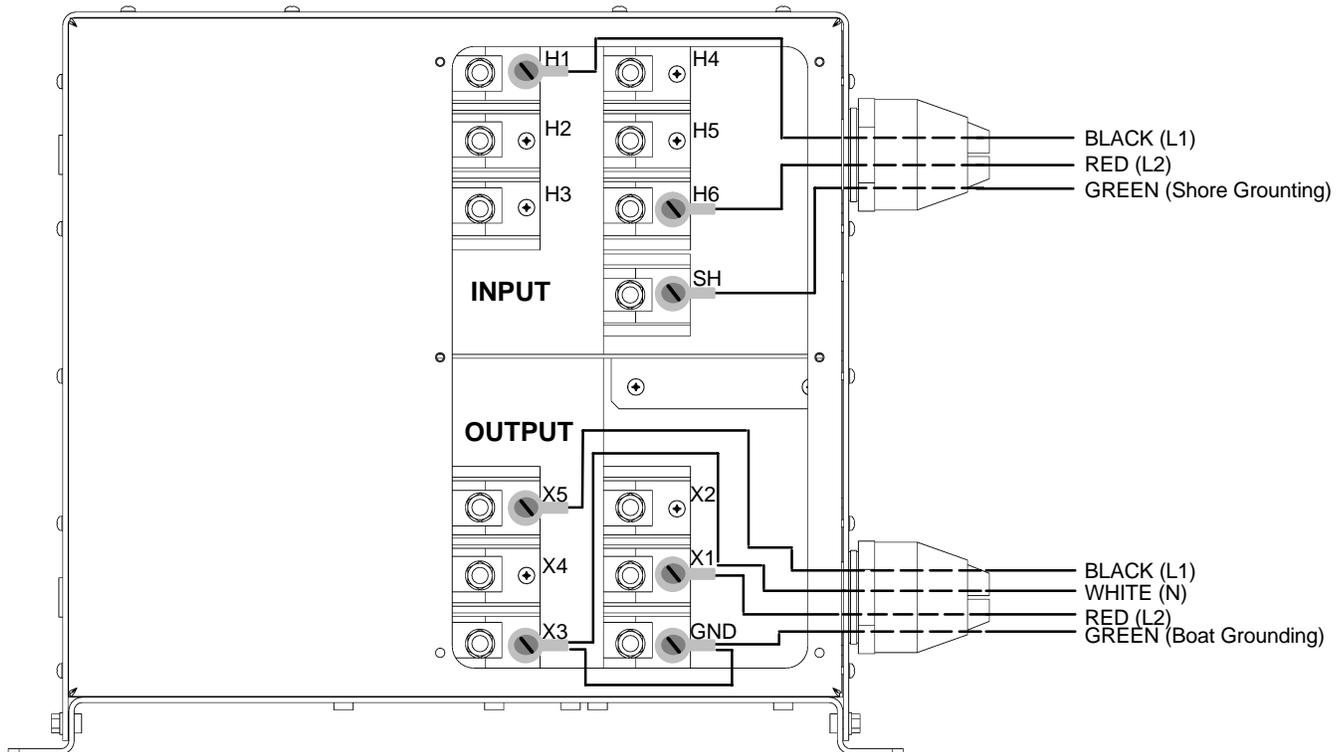
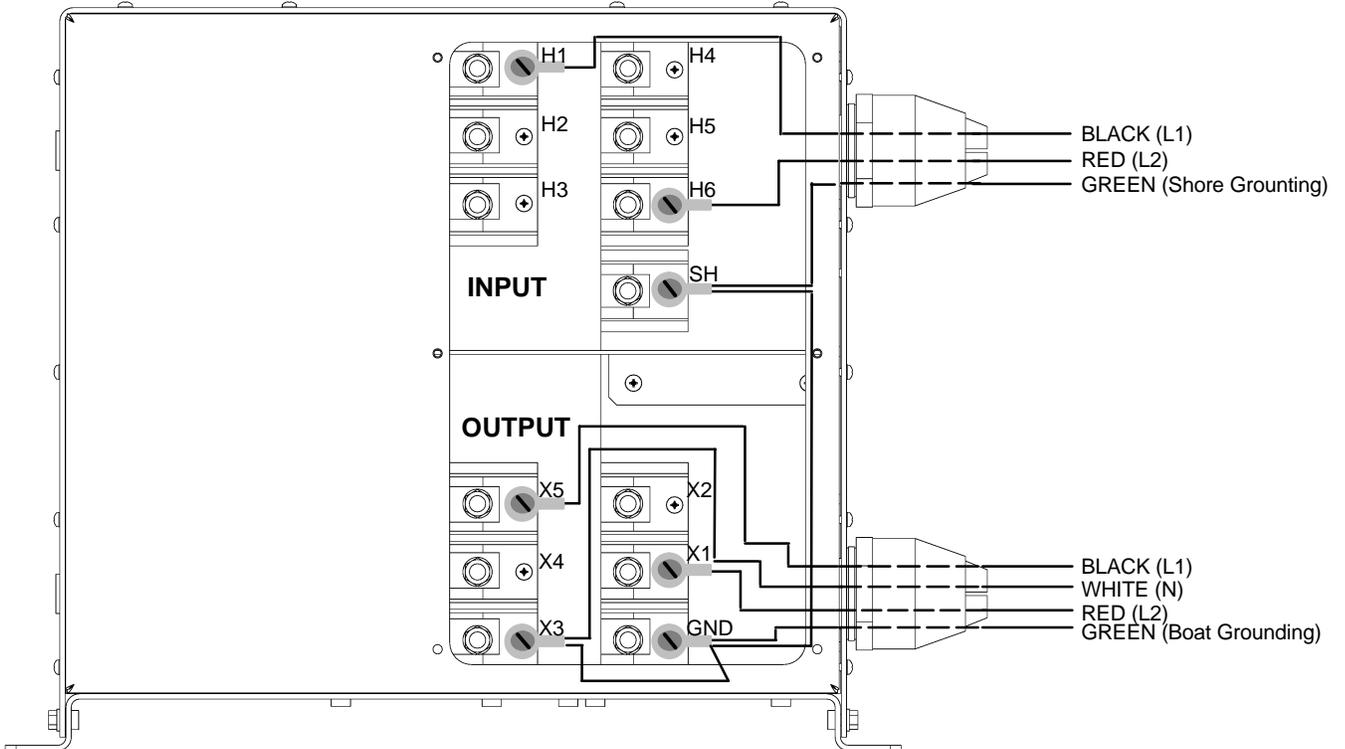

Figure 5. Typical Wiring as an Isolation Transformer (240 Volt Primary Input) – Method 1 (see Figure 1 for Electrical Diagram)
Figure 7. Typical Wiring as a Polarization Transformer (240 Volt Primary Input) – Method 3 (see Figure 3 for Electrical Diagram)
8.	Connect all wiring as shown in Figure 5, Figure 6, Figure 7, Figure 8, Figure 9 or Figure 10 based on the chosen wiring method.